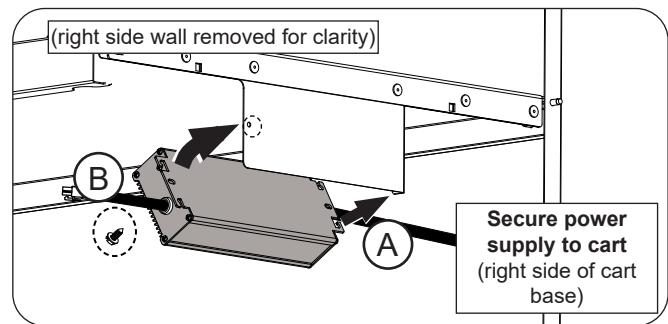

Fig. 10-1 Mount power supply
1. Insert the tabs of the power supply into the slots on the cabinet side wall flange (Fig. 10-1, A). Use the provided screw with a flathead screwdriver or 5/16" hex nut driver to secure the power supply into place. See Fig. 10-1, B.